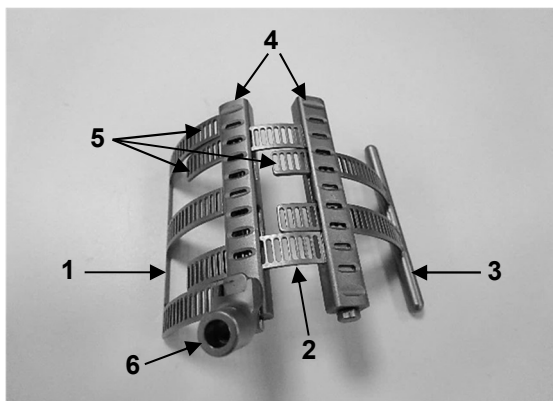

Fig. 1a: MMZ-7
The size-adjustable atrial blade MMZ-7 (Fig. 1a) consists of three elements of different sizes: basic element (1), primary element (2) and secondary element (3) (Fig. 1b). One element is composed of the cage module (4) and rib blades (5) (Fig. 1a).